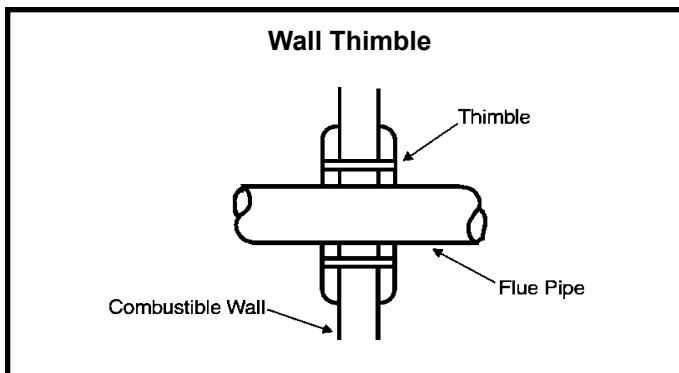

Figure 2
7. The flue pipe may pass through a wall where provisions have been made for a thimble as specified in the Standards of the **National Board of Fire Underwriters**. See Figure 2.